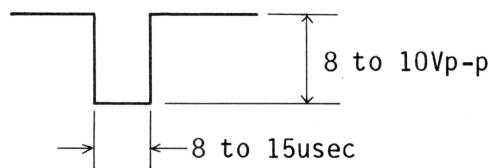

Fig.4-15 TX. Trigger at pin#1 of J52 on the PROCESSOR board
- 5) Check the TX trigger waveform at pin#1 of J52 on the PROCESSOR board (SPU-6172) by using an oscilloscope. See Figs.4-15 and 4-16.